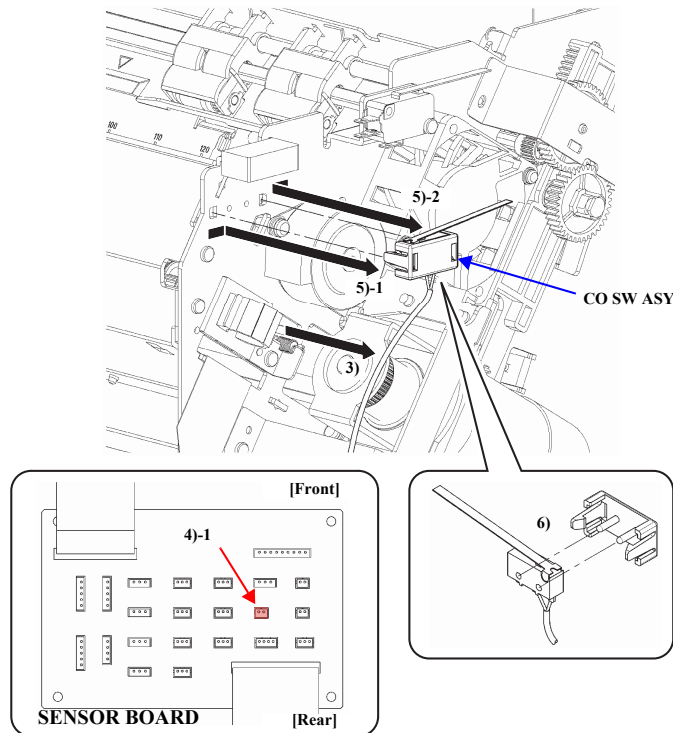

Figure 4-21. CO SW ASY Removal
5. Release the front tab of the CO SW ASY from the inside of the PR MECHA ASY, and slide the CO SW ASY backward. Then release the rear tab to remove the CO SW ASY. See arrows 5)-1 and 5)-2 in Figure 4-21.